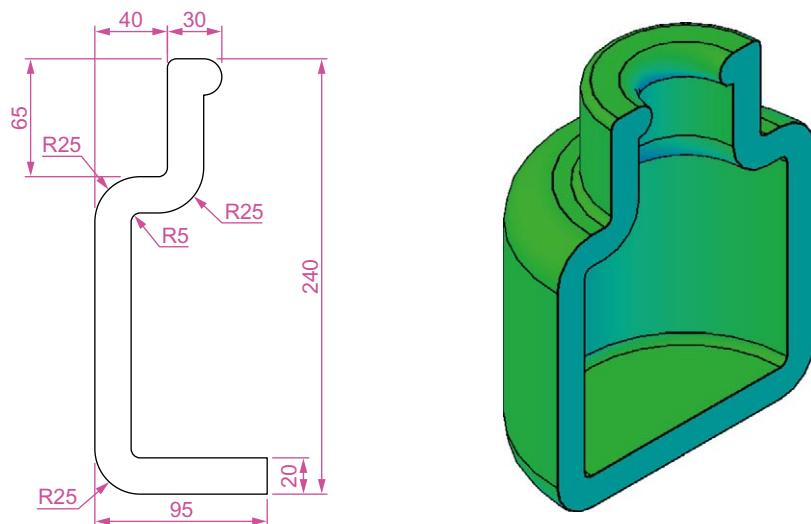

Fig. 12.22 Third example – **Revolve**. The outline to be revolved and the solid of revolution
Third example – **Revolve** (Fig. 12.22)
3. Construct the pline (left-hand drawing of Fig. 12.22). The drawing must be either a closed pline or a region.
The result is shown in Fig. 12.22 (right-hand drawing).